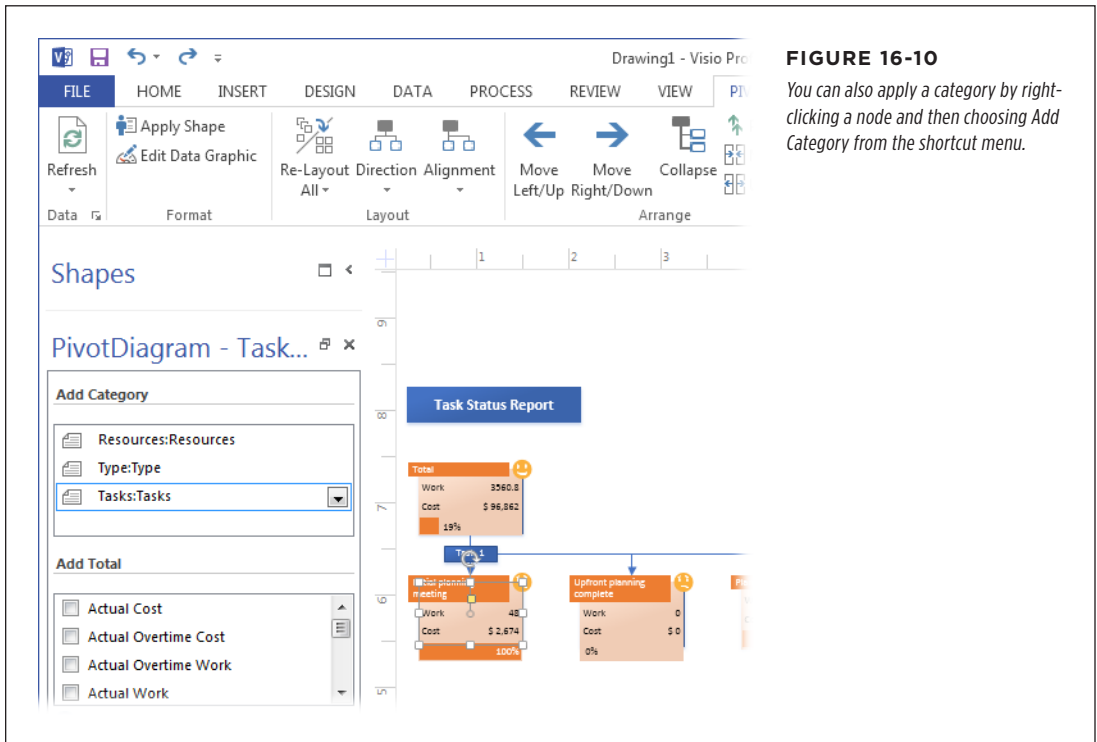

FIGURE 16-10
- **Add a new breakdown.** To break down a node into more detail, you add a category to that node. Click the node, and then, in the PivotDiagram task pane to the diagram's left, below the Add Category heading, click the category you want to add: Resources:Resources, Type:Type, or Tasks:Tasks, as shown in Figure 16-10. For example, if the first level of the diagram shows project phases, you can add Tasks as the second level to build the equivalent of a work breakdown structure diagram. If you add Resources instead, then you can see how resources contribute to task values.